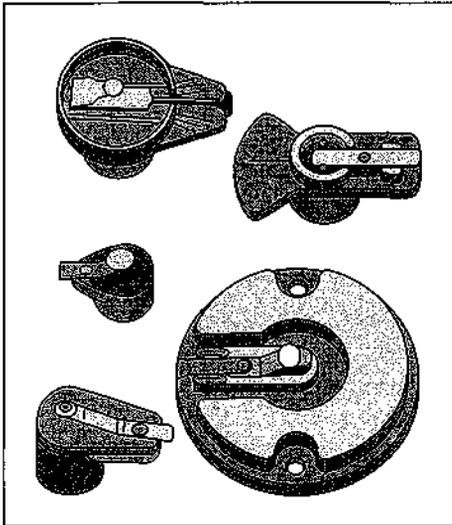

Figure 5-14:
- ⓈⓈ The rotor (see Figure 5-14) sits atop the distributor shaft inside the distributor. As the distributor shaft turns, the rotor rotates with it and points toward the terminal at the base of each spark plug wire so that each plug can fire in the correct order. For example, when it's pointing at the terminal of the wire leading to your Number 1 spark plug, it directs the current to that spark plug at precisely the time when the fuel/air mixture in the Number 1 cylinder is waiting to be exploded.